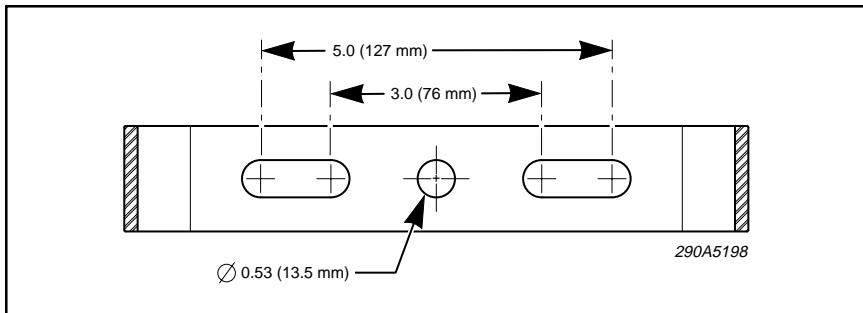

Figure 1.
3. Using the mounting bracket as a template, scribe drill position marks on the mounting surface. See figure 1 for mounting hole locations and dimensions.